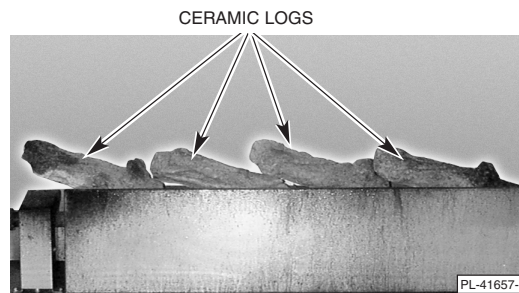

Fig. 36
- Place ceramic logs on log rack. Place logs beginning on the left side with the right side of each log angled down (Fig. 36). Place the left ceramic log over the ignitor box to prevent fat from clogging the burner holes.